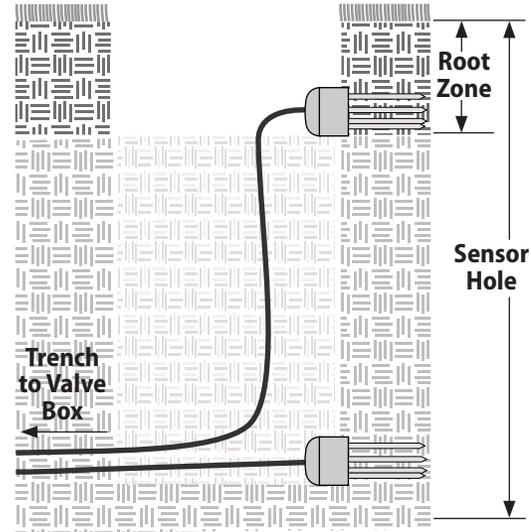

Figure 9 - Type 3 Sensor Installation
- 1 Using a spade (or other suitable tool), carefully cut and remove turf area where the sensor(s) will be located. Dig sensor holes as deep as the depth of the lower sensor (if two will be used) as shown in Figure 9.